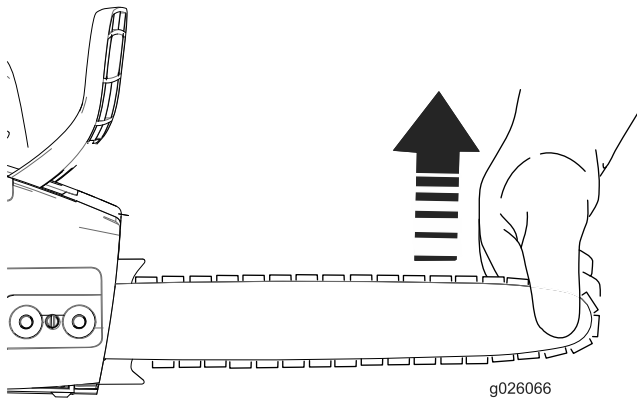

Figure 34
10. Hold up the tip of the bar (Figure 34).